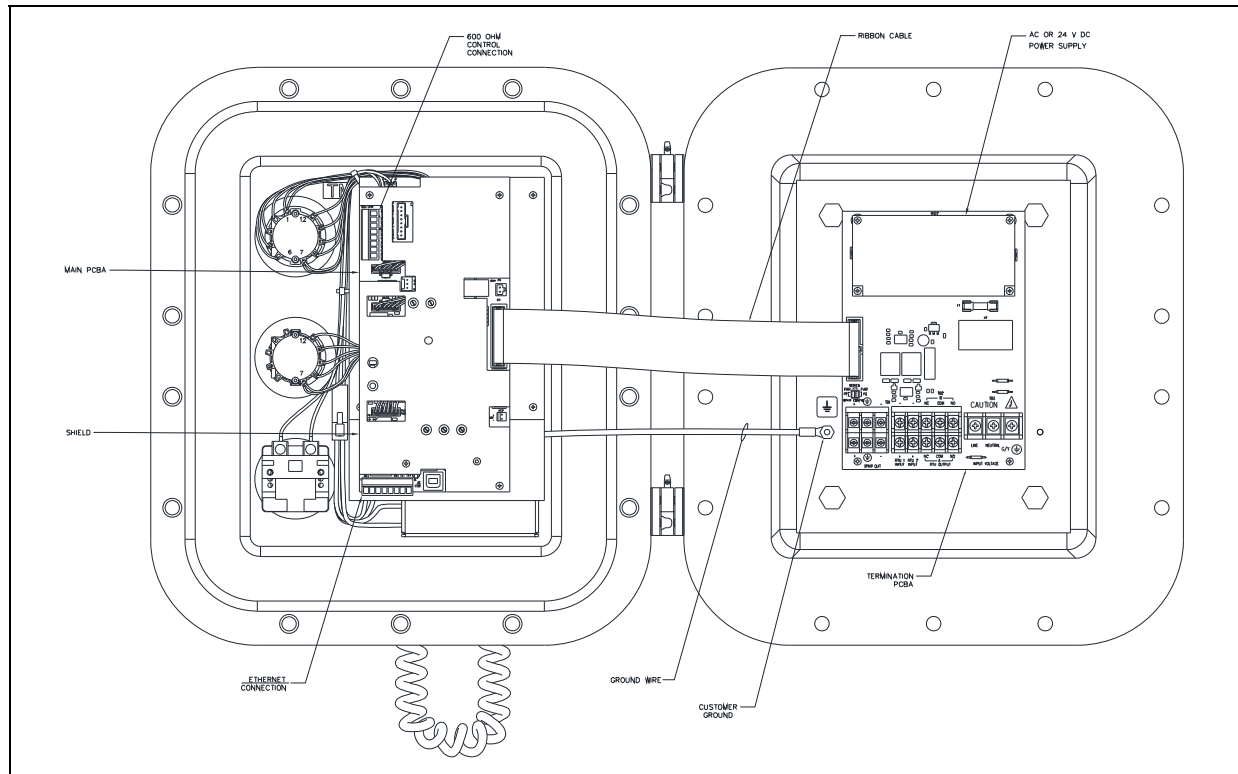

Figure 5. Hazardous Area SP2 Station—Interior View
2. Secure it to the ground terminal, located at the back of the rear enclosure, on the left side (see Figure 5).